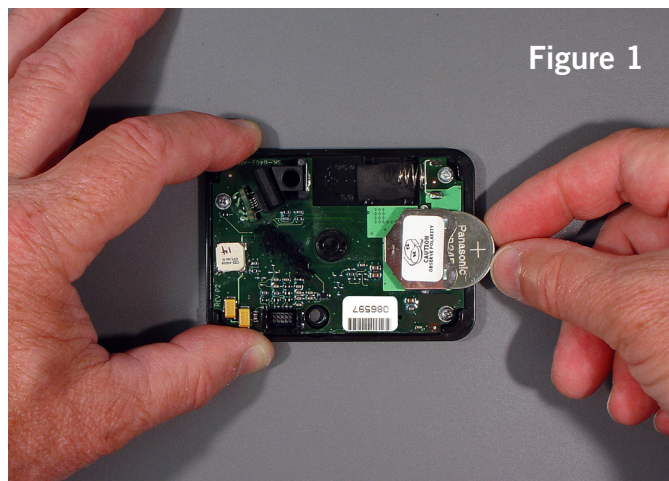
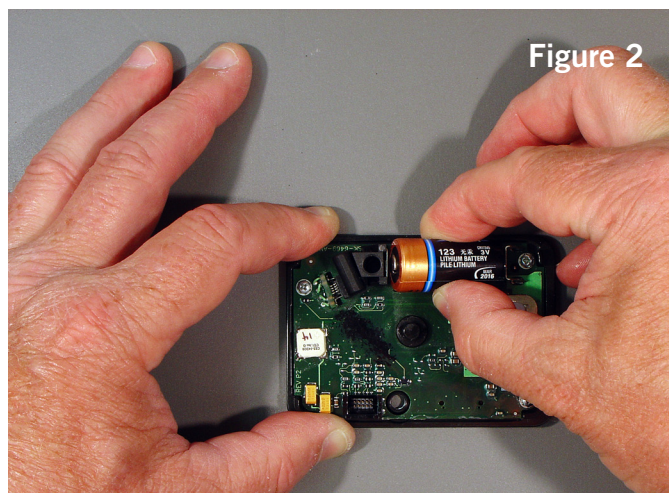

Figure 1
Figure 2
**Step 4**—Slide a new coin cell battery into its housing first, positive side up (figure 1). Then install the camera-type battery into its receptacle (figure 2). Never force batteries into place. If batteries are installed backwards, no electrical damage will occur, but the lock will not work as designed, or at all. If you find that you have inadvertently installed the coin cell battery backwards (reverse polarity), discard the battery in favor of a new one. It is easy to temporarily short this type of battery by installing it incorrectly, significantly depleting its power.